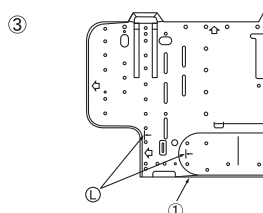

Fig. 3-7
- ③ If the flare pipe is to be embedded into the wall in advance: (Fig. 3-7)
- (L) Mark
(1) Wall mounting fixture